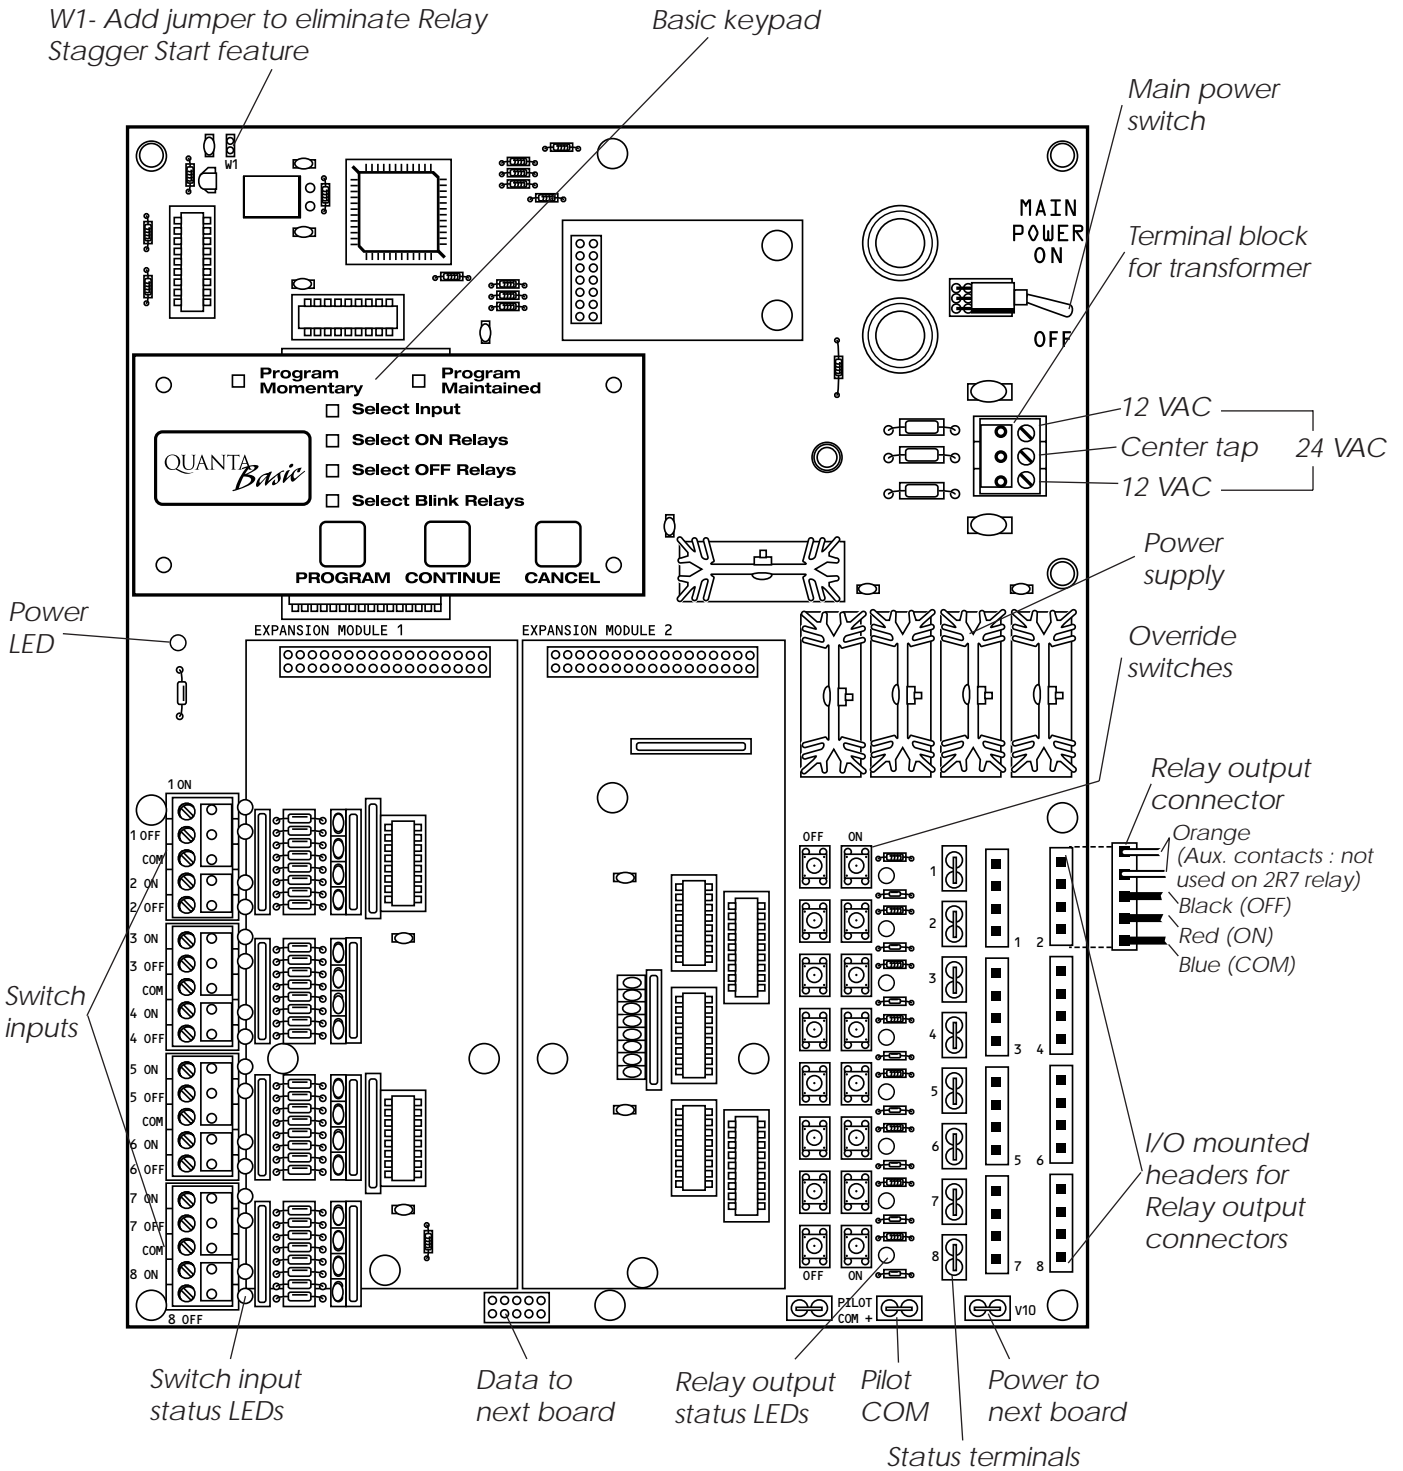

Figure 1.2 – CPU I/O Board
1.1.3 CPU I/O Board – (See Figure 1.2.) The CPU board provides the controller's intelligence and memory and the first eight (8) of the controller inputs and outputs. Components of interest to the installer include:
- *Override Switches* – Each relay output is equipped with an ON and an OFF override switch. These switches allow you to turn the associated lighting relay ON or OFF. (See Figure 1.2.)
terminated to a relay output on the controller CPU I/O board. (See Figure 1.2.) Each relay output controls only one lighting relay.
Verify that there is 24 VAC on control transformer secondary and 12 VAC between each leg and the center tap. (See Figure 1.2.)
1. Turn the power switch located on the CPU I/O board ON. (See Figure 1.2.)
3. Verify that the power light on each I/O board is lit. (See Figure 1.2.)